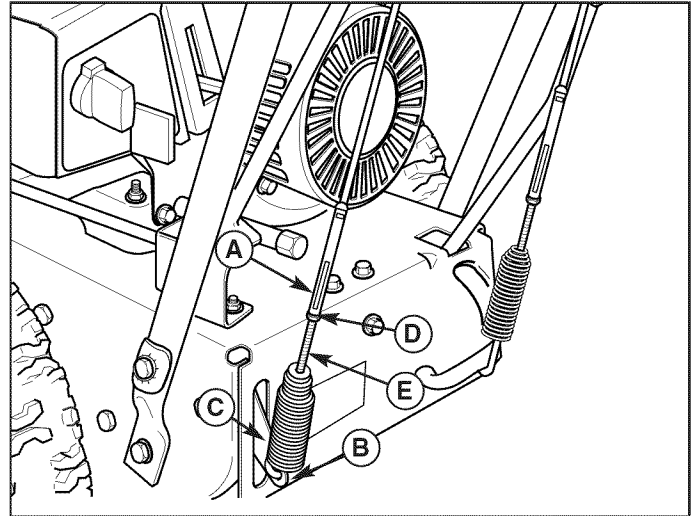

Figure 20. Traction Drive Adjustment (Tube Handle Models)
1. To adjust tension on the cable loosen adjustment hex nut (D, Figure 20) by holding the adjusting flats (A). Turn the adjustment screw. The adjustment screw is a phillips screw and the head can be held or turned by inserting a screwdriver through the traction drive clutch cable spring.